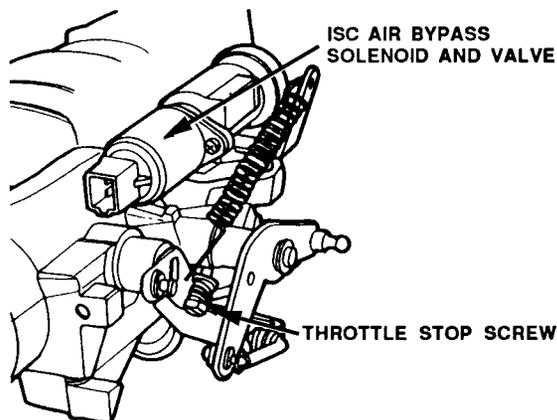

Figure F050-13
5. Place the transmission in drive (AT) or neutral (MT). Place 1991 and later AT in park.
6. Turn the throttle stop screw (Figure F050-13), to set the idle speed:
5. Place the transmission in drive (AT) or neutral (MT).
6. Turn the throttle stop screw (Figure F050-13), to set the idle speed to specifications: